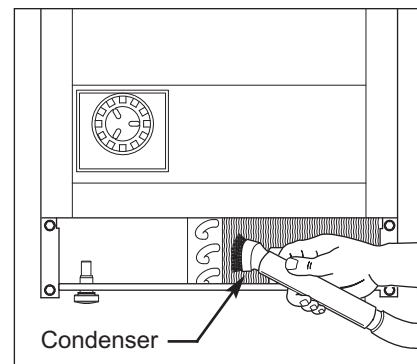

Figure 4-1. Condenser Cleaning
2. With a brush attachment, vacuum face of condenser while moving the brush up and down. (See Figure 4-1)